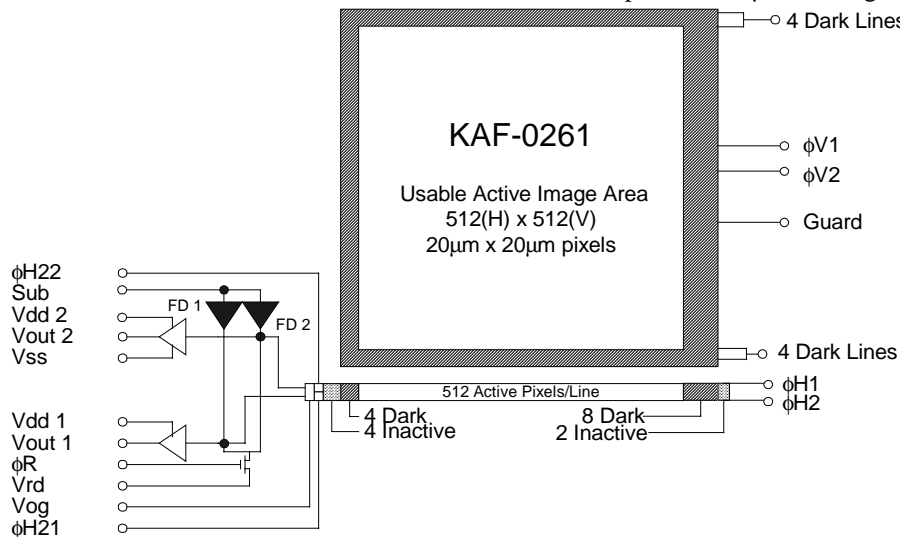

Figure 1 - Functional Block Diagram
The KAF-0261E consists of one vertical (parallel) CCD shift register, one horizontal (serial) CCD shift register and a selectable high or low gain output amplifier. (See Figure 1.) Both registers incorporate two-phase buried channel CCD technology. The vertical register consists of $20\mu\text{m} \times 20\mu\text{m}$ photocapacitor sensing elements (pixels) which also serves as the transport mechanism. The pixels are arranged in a 512(H) x 512(V) array; an additional 12 columns (4 at the left and 8 at the right) and 8 rows (4 each at top and bottom) of non-imaging pixels are added as dark reference. Because there is no storage array, this device must be synchronized with strobe illumination or shuttered during readout.